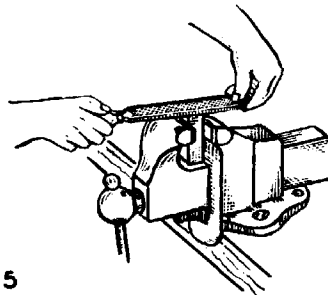

FIG. 5
8. When finish filing, use a "fine cut" file. Grasp the file handle with the thumb and index finger of the right hand, the end of the handle resting lightly against the base of the thumb. The end of the file is guided with the thumb and index finger of the left hand with the end of the thumb on top and the tip of the index finger beneath. (Fig. 5).